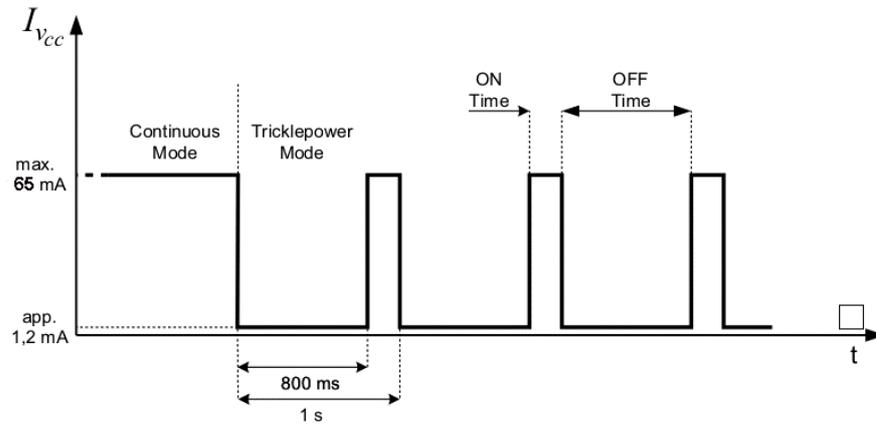

Figure 2: Example for the trickle power mode of FALCOM JP7-T family
- trickle power mode: The default Mode of FALCOM JP7-T is continuous Mode, but the user can set FALCOM JP7-T into the Trickle Power Mode via input command message. The FALCOM JP7-T family enters the trickle power mode corresponding to figure 2 (**800 ms OFF Time and 200 ms ON Time**) as soon as valid GPS data are available. As a result the average power consumption is reduced by approximately 80 % (approximately 150 mW). The settings for the trickle power mode can be modified by using the SiRFstar demo software. For example if the FALCOM JP7-T is configured to enter the OnTime mode each 10 s for a duration of 200 ms the